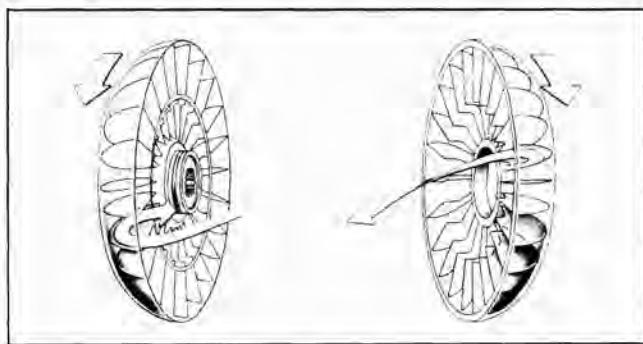

Fig. 6 Torus Operation—Step 1
Step 1. The engine turns the coupling drive member thus causing the drive member to force the oil against the vanes of the driven member, forcing the driven member to turn (Fig. 6).